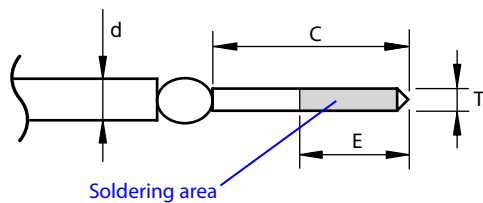

Fig. 4. Outline drawing and dimensions for pin terminal used on all DIY signal wires.
- When soldering on the pin terminal, the solder joint for the gold wire conductor may not be heated to or above the solder melting point of +217 deg. C as this may affect wire reliability. Solder may only be applied within the soldering area specified as a maximum of 3mm from the pin terminal tip. See fig. 4.